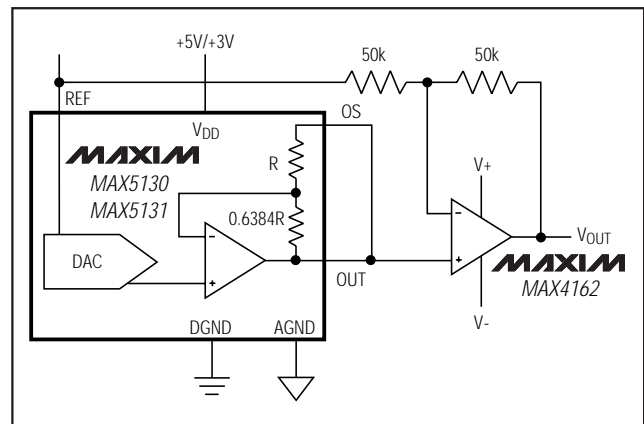

Figure 11. Unity-Gain Bipolar Output Circuit Using Internal (+1.25V/+2.5V) or External Reference. With external reference, pull REFADJ to  $V_{DD}$ .
The MAX5130/MAX5131 can be configured for unity-gain bipolar operation (OS = OUT) using the circuit shown in Figure 11. The output voltage  $V_{OUT}$  is thereby given by the following equation:
where NB is the numeric value of the DAC's binary input code,  $V_{REF}$  is the voltage of the internal (or external) precision reference, and G is the overall gain. The application circuit in Figure 11 uses a low-cost operational amplifier (MAX4162) external to the MAX5130/MAX5131 in a unity-gain configuration. This provides an overall circuit gain of 2V/V. Table 6 lists example codes for bipolar output voltages.
**Table 6. Bipolar Code Table for Figure 11**